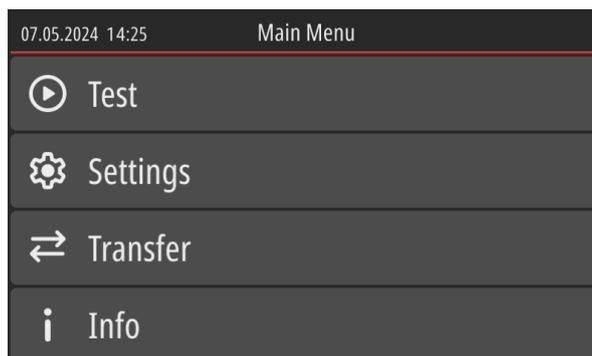

Figure 46: Main Menu
- Switch ON the Tester, Main Menu will appear, see the Figure 46.